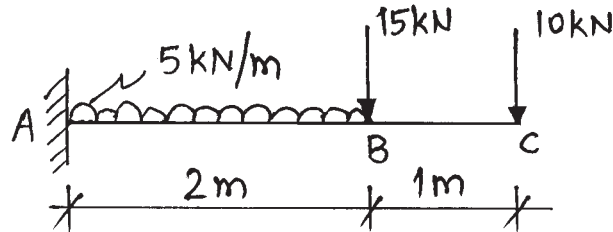

Fig. No. 2
- c) Draw S.F. and B.M. diagrams with all important values for the beam loaded as shown in Fig. No. 2.